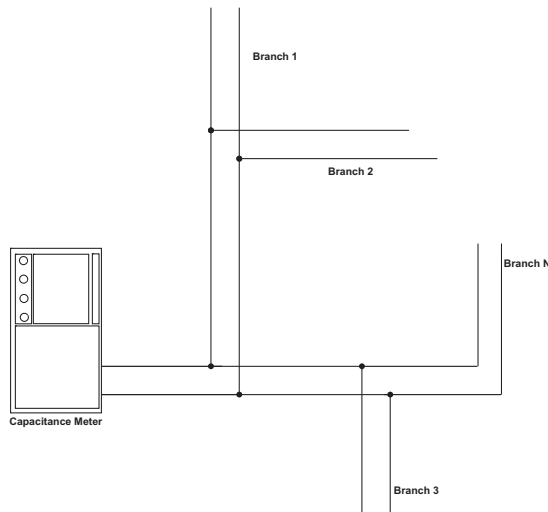

Figure 2-26. Measuring CLASS-B SLC Wiring Capacitance
2. Measure the capacitance from the terminating points at the control unit using a capacitance meter. Refer to Figure 2-26.